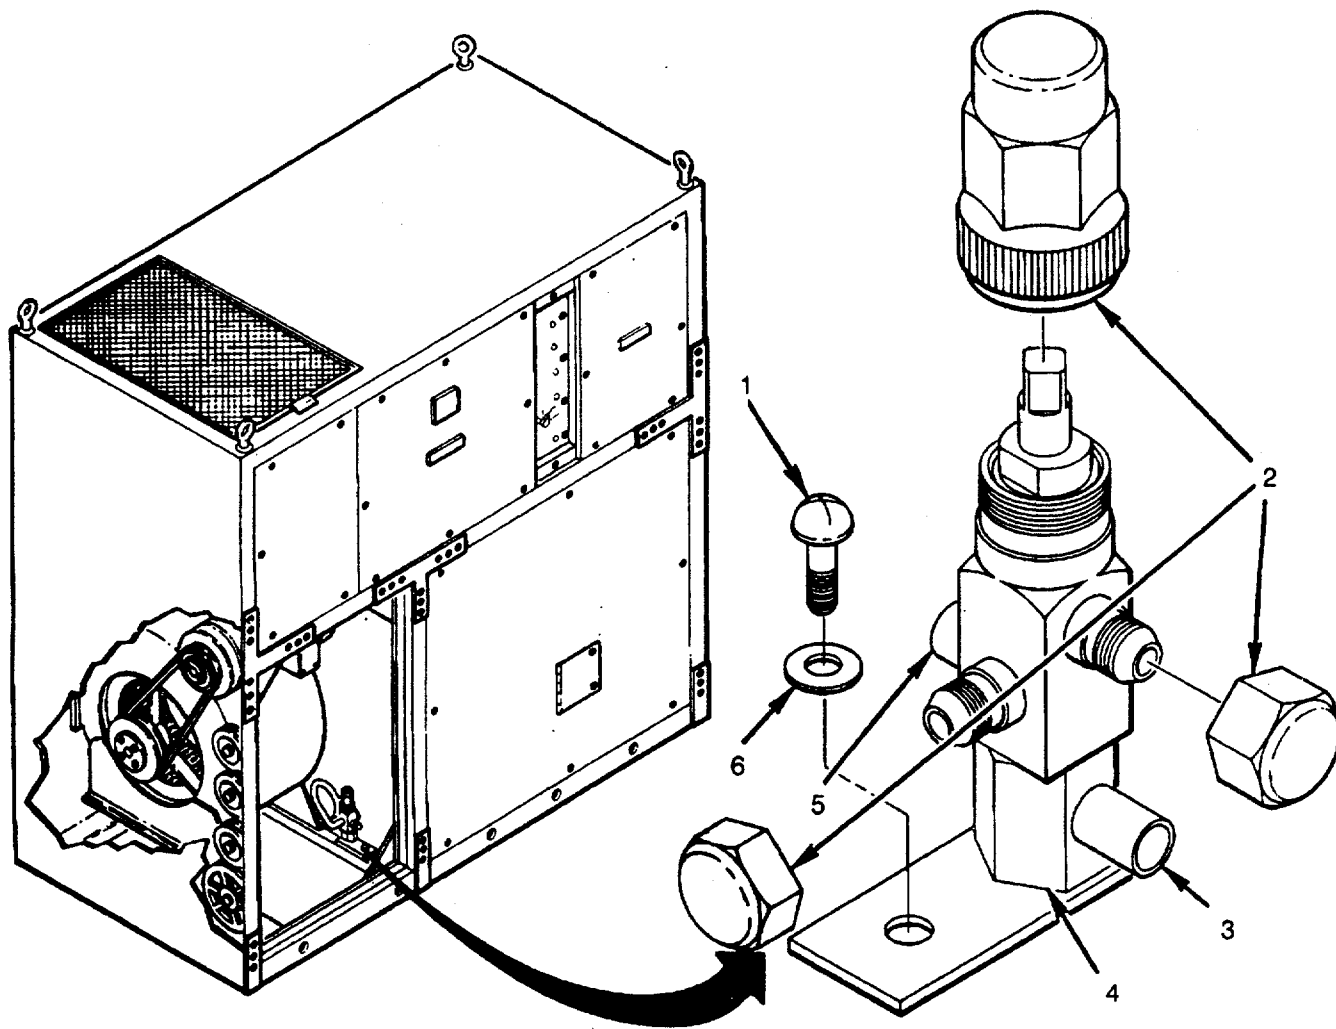

Figure 5-20. Service Valve (Actuator)
1. Check that caps are in place and that threaded connection ends are not damaged. Replace if missing or damaged (see Figure 5-20).